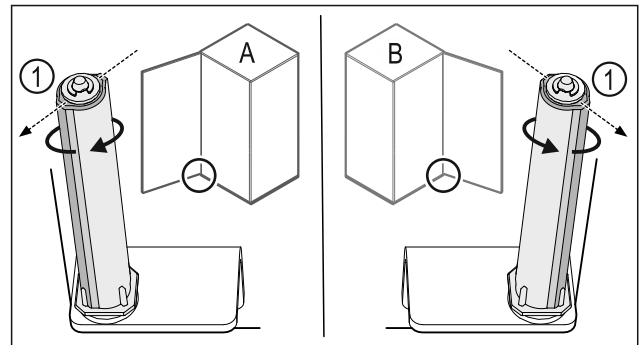

Fig. 43 Left-hinged (A) / Right-hinged (B)
- ▶ Turn the closing system against the resistance until the bar of the closing system Fig. 43 (1) points outwards.